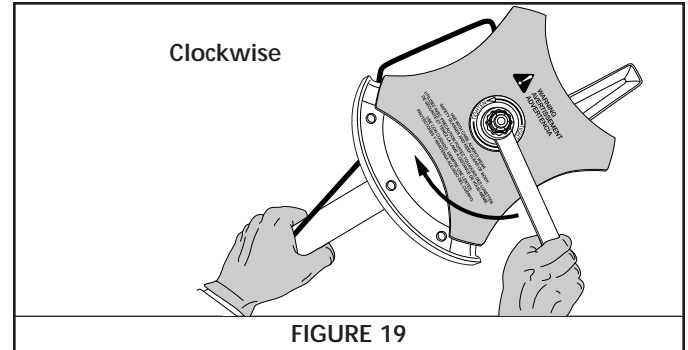

FIGURE 19
- While holding the locking rod, loosen the nut on the blade by turning it clockwise with a 5/8-inch closed-end or socket wrench. See Figure 19.